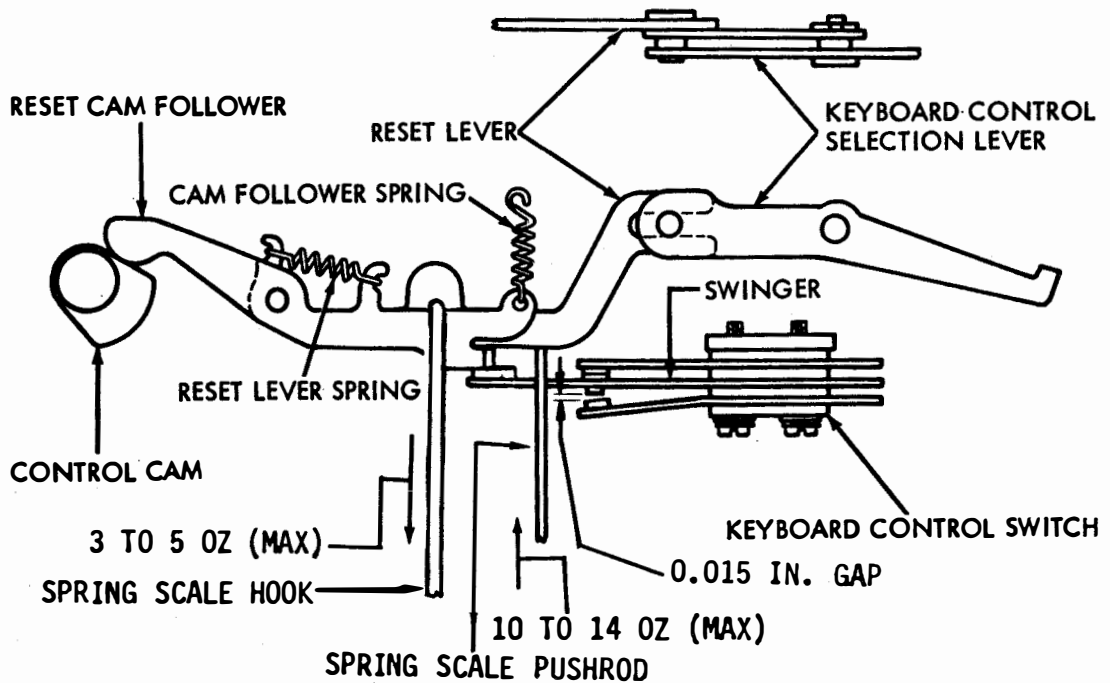

Figure 6-132. Keyboard Control Switch, Reset Lever Spring, and Cam Follower Spring
(12) Keyboard Control Switch. Adjust as follows:
- (a) Refer to Figure 6-132.
(a) Refer to Figure 6-132.